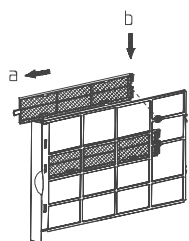

Fig. 21
- Attach the two purifying filter frames back into the main filter (See Figure 21).